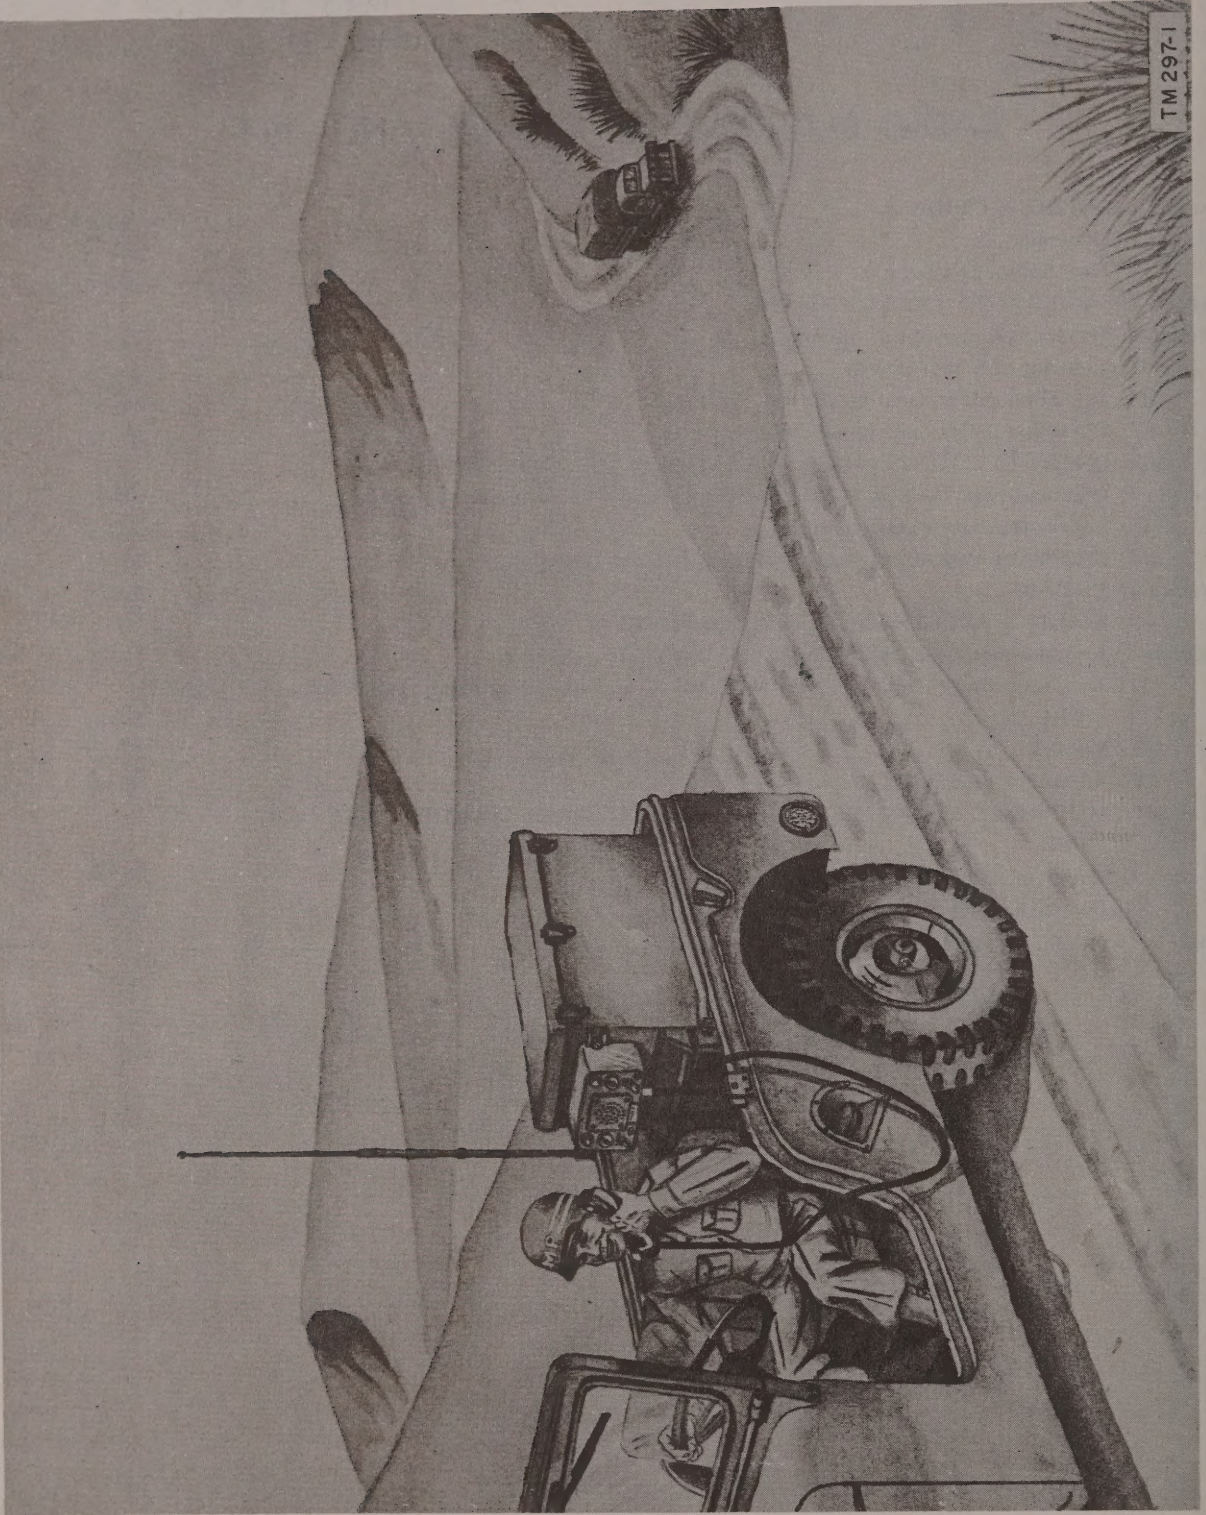

Figure 1. Radio set AN/VRC-19(*) in use.
a. This technical manual contains instructions for the installation, operation, maintenance, and repair of Radio Set AN/VRC-19(*) (fig. 1). Official nomenclature followed by (*) is used to indicate all models of the equipment covered in this technical manual. Thus, Radio Set AN/VRC-19(*) represents Radio Set AN/VRC-19 (24 volts), Radio Set AN/VRC-19X (12 volts), and Radio Set AN/VRC-19Y (6 volts); Electrical Equipment Cabinet CY-938(*)/VRC represents Electrical Equipment Cabinet CY-938/VRC and Electrical Equipment Cabinet CY-938A/VRC.
Radio Set AN/VRC-19(*) (fig. 1) is a mobile frequency-modulated (fm) set normally used for nontactical purposes. It operates in the frequency range of 152 to 174 megacycles (mc) and has a power output of approximately 25 watts between 152 and 162 mc and from 20 to 25 watts between 162 and 174 mc. This power output allows an